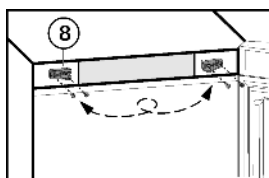

Fig. 24
- ▶ Unscrew bearing part *Fig. 24 (8)*, turn it 180° and move it to the opposite side. Make preliminary holes (optional) or use a cordless screwdriver.